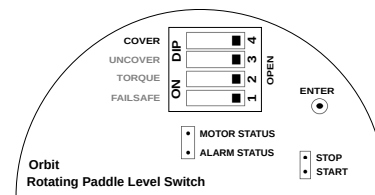

Figure 13: Saving Cover Delay
- Delay is entered, but not saved. To save and test the cover delay, set the COVER switch back to OPEN position as shown in Figure 13.